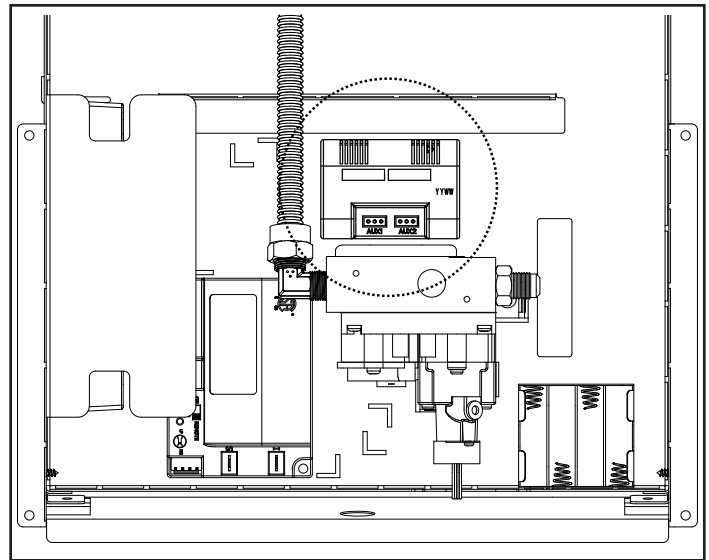

Figure 8.3 Auxiliary Box
1. Install the AUX200/AUX300 auxiliary box into the stove. The auxiliary box is intended to be installed in the component tray directly behind the gas valve. See Figure 8.3.